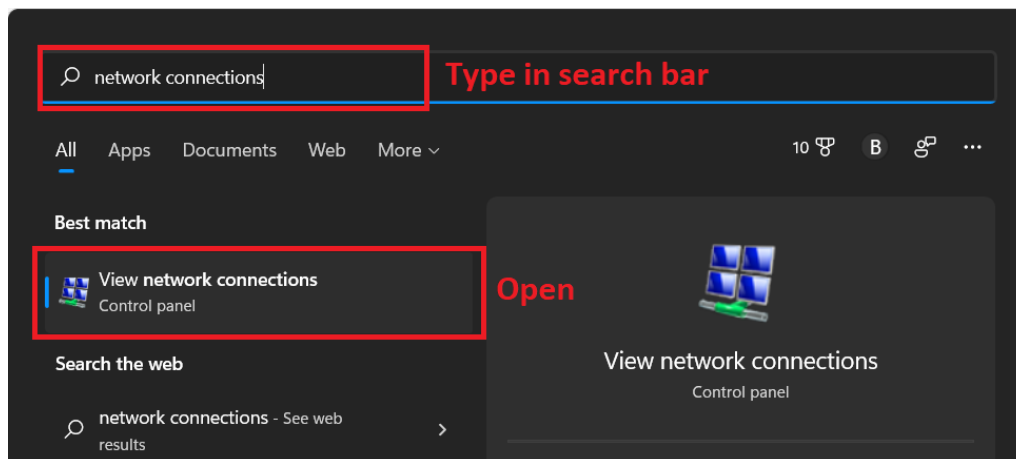

Figure 4: View Network Connections
- 2- Type in the search “network connections” and either select when it is displayed, or press enter. See Figure 4.